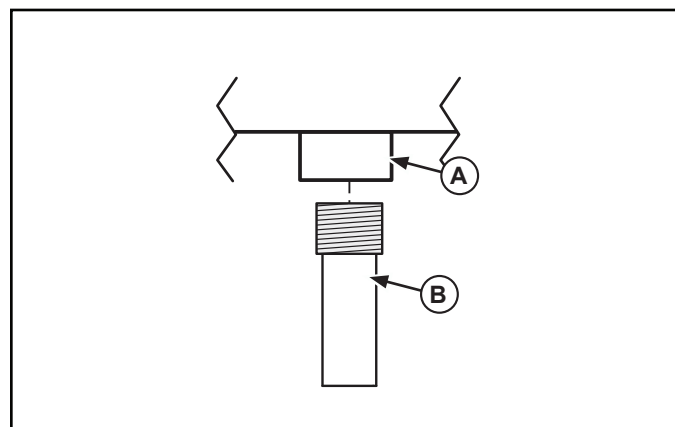

Figure 1. Removal of Stub Pipe.
3. Remove the stub pipe (B) by unscrewing it from the well bottom (A). See Figure 1.